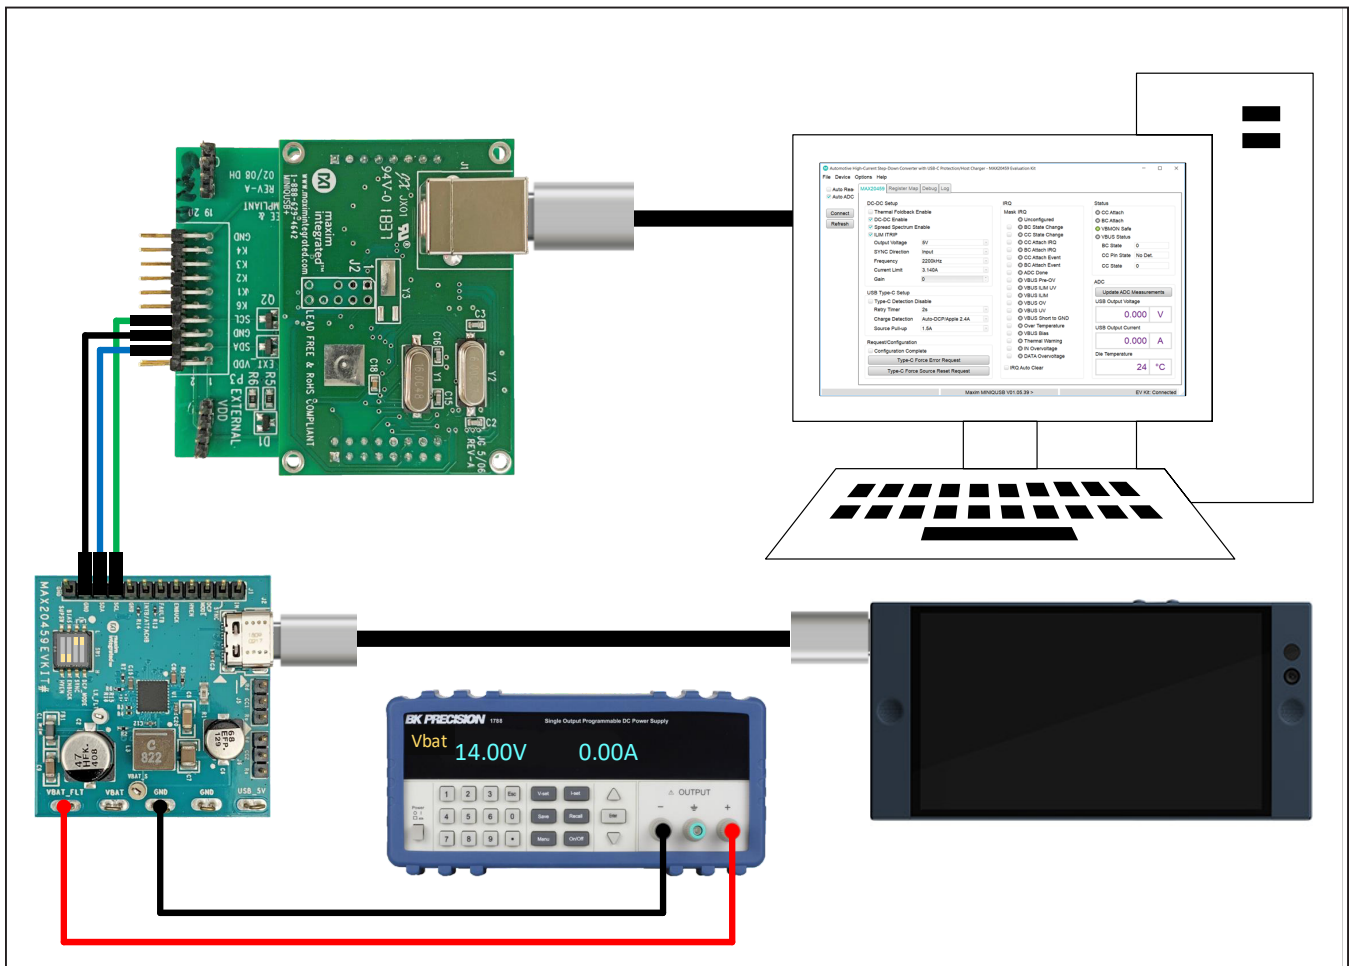

Figure 3. I2C EV Kit Setup
- a. 0.5A/1.5A/3.0A, see Figure 3.